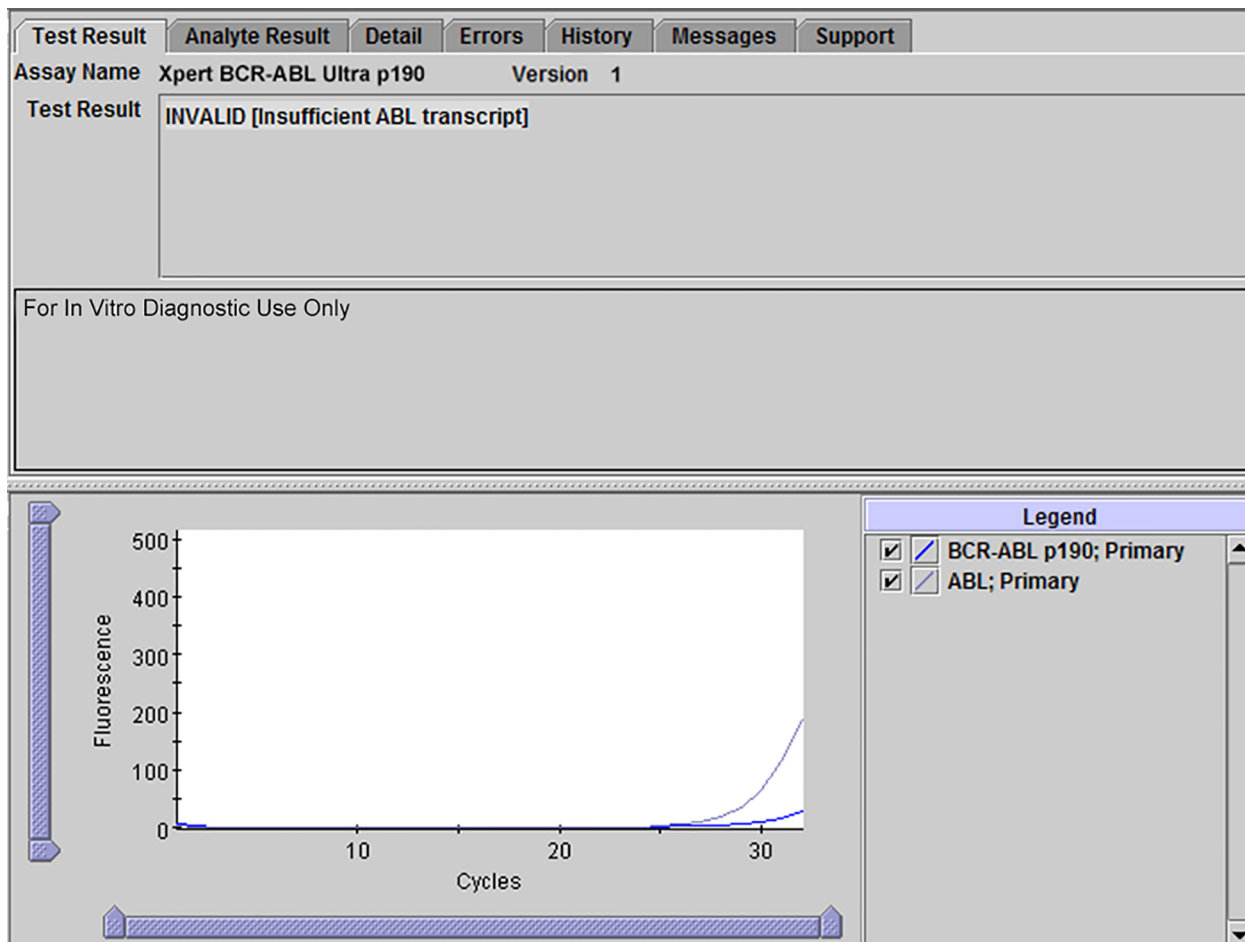

Figure 7. GeneXpert Dx View Results Window: INVALID [Insufficient ABL transcript]
|   | INVALID [Insufficient ABL transcript] |              |  | ABL Ct is above the acceptance threshold. See Figure 7.                                 |
**Result:** **INVALID [Insufficient ABL transcript]**. See Figure 7.